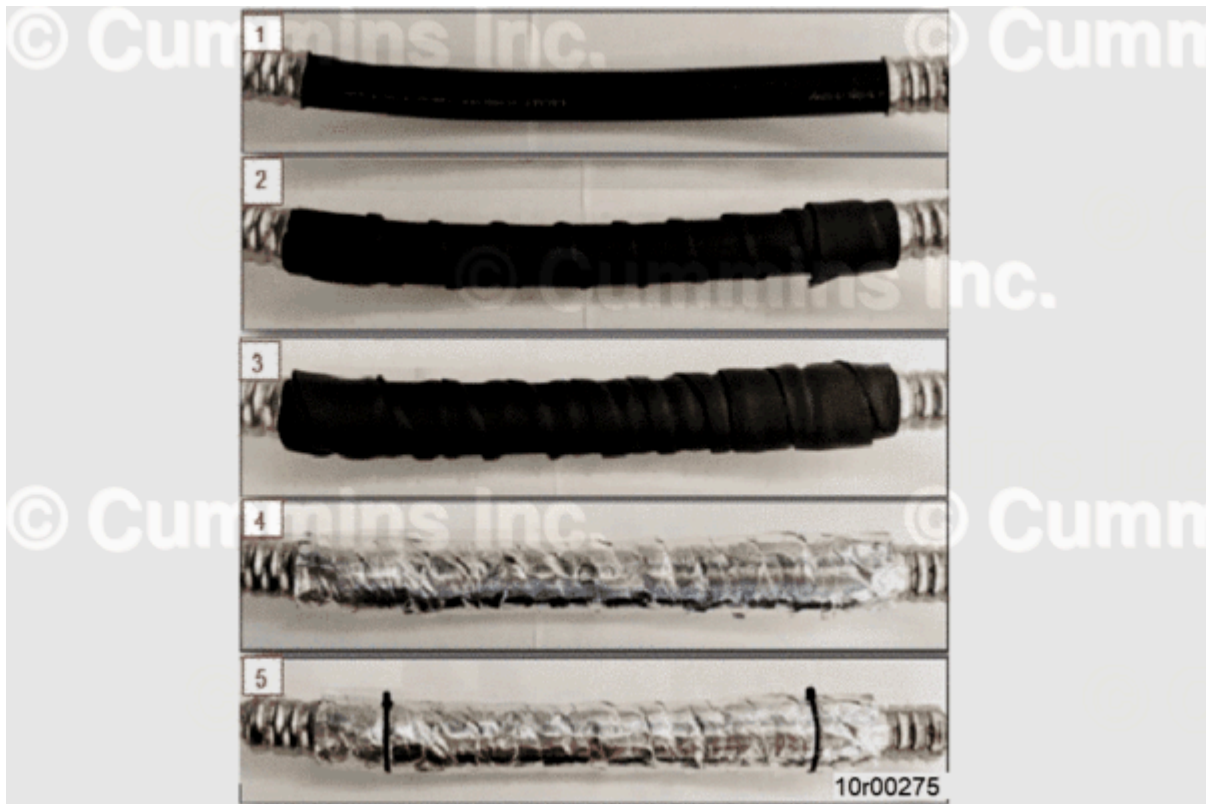

Figure 5, A/C Line Insulation Installation Steps
1. Clean hose and remove any oil or dirt (Figure 5, Item 1).
2. Wrap A/C line with two layers of cross-linked polyethylene insulating foam tape (Figure 5, Item 2) and (Figure 5, Item 3). Target two 7.5 ft [2.3 m] section of insulation tape.
3. Apply final wrap to the A/C line wrap with reflective heat shield tape (Figure 5, Item 4). Target 10 ft [3 m] of thermo-shield wrap.
4. Secure the wrap in place using two zip ties on each end of the wrap (Figure 5, Item 5) Target 2 inches [50mm] in from the metal connection on the A/C line.
5. Complete installation of line insulation. See Figure 5 above.